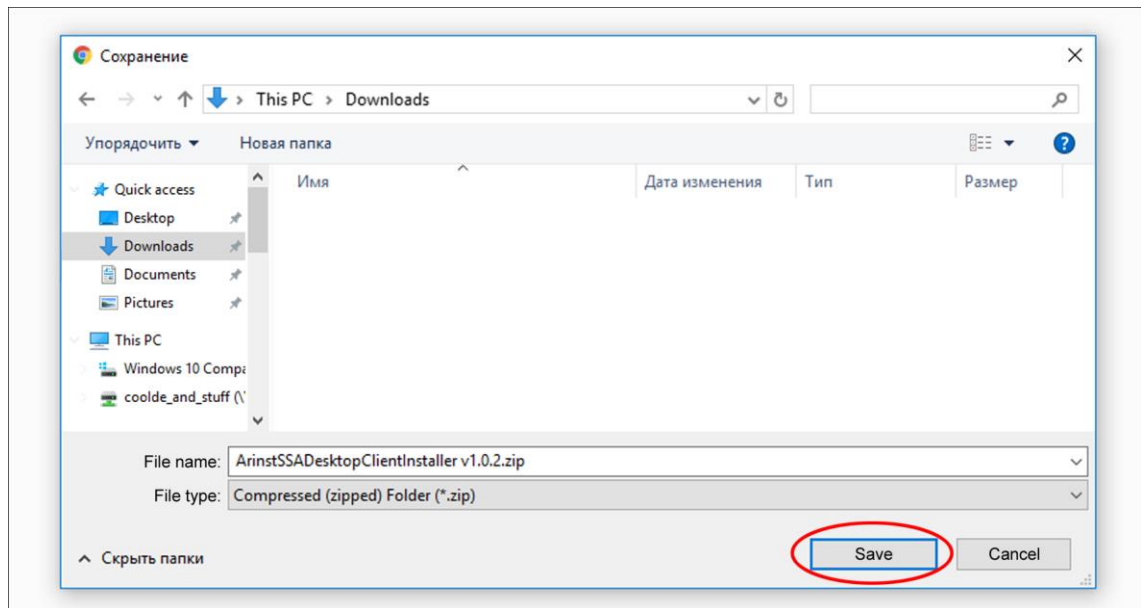

Figure A2 – Saving the downloaded software file
2.2. Specify the path to where the compressed (archived) file with the application should be loaded and click the **Save** button (Figure A2).